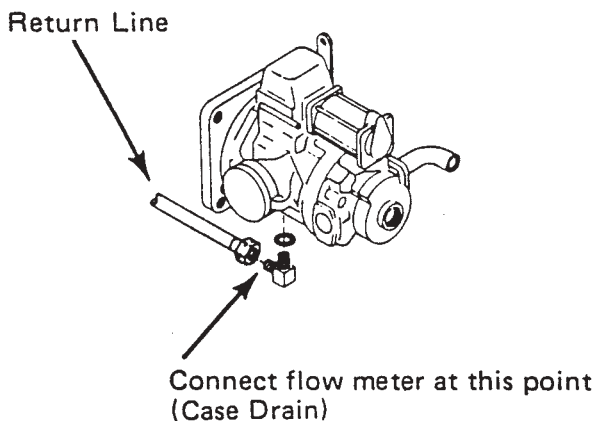

Figure 30. Checking Hydraulic Pump Case Drain Rate
1. Disconnect case return line from hydraulic pump as shown in Figure 30.
2. Connect a flow meter as shown in Figure 30., or direct oil flow into a container of known volume for a measured amount of time to determine the flow rate in gallons per minute (GPM). If the flow rate is above the maximum allowed, the pump is worn internally and should be replaced or repaired before proceeding.